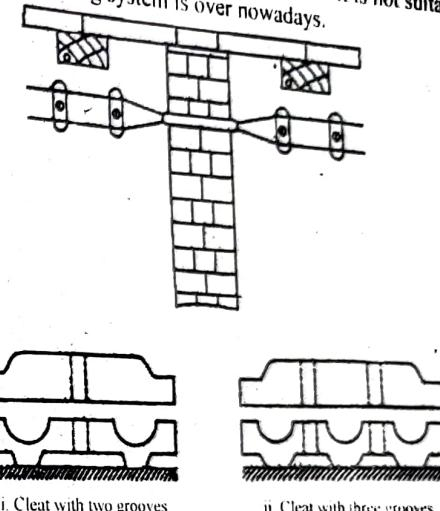

Fig: 1
a) **Cheat Wiring:** This system of wiring (Fig. 1) comprises of ordinary VIR or PVC insulated wires (occasionally, sheathed and weather proof cable) braided and compounded held on walls or ceilings by means of porcelain cleats, Plastic or wood. Cheat wiring system is a temporary wiring system therefore it is not suitable for domestic premises. The use of cheat wiring system is over nowadays.